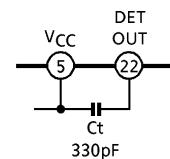

Fig.3 Countermeasures for AM tweets
It is necessary to connect the capacitor C_t (about 330pF) between V_{CC} terminal (pin⑥) and DET OUT (pin㉒), in case that AM tweets occurs by pattern layout. (Fig.3)